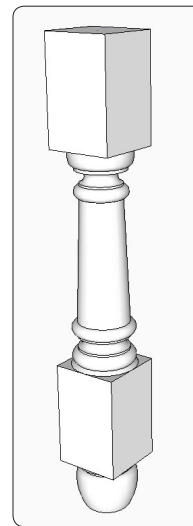

Figure 5. Give the pommels their full shape.
Step 3 Use the Push/Pull Tool multiple times to make the rectangular faces into square sections, as shown in Figure 5.